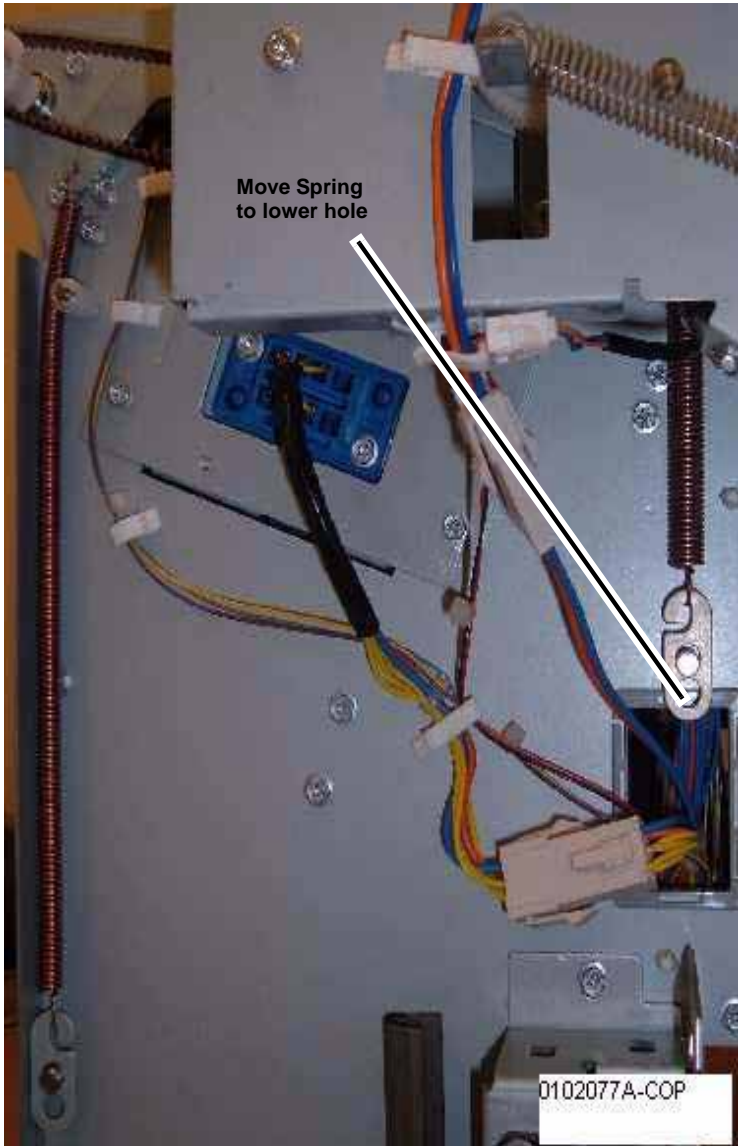

Figure 4 Adjusting the rear Spring tension
5. Adjust the rear Spring tension (Figure 4).